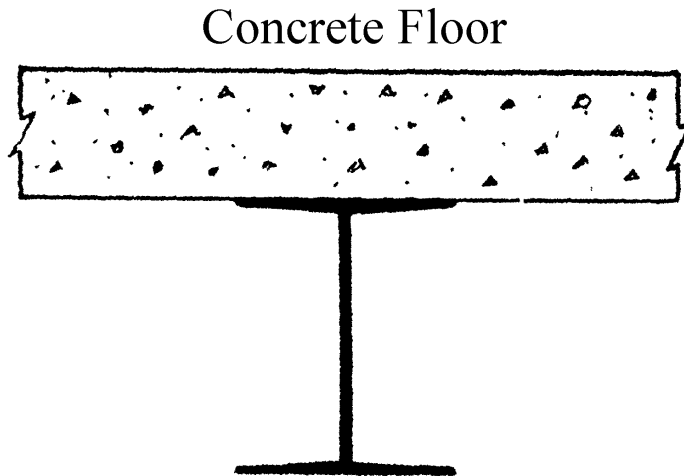

Fig. 1
2. A steel beam is shown in figure 1. Sketch how this could be enclosed using timber framing and plasterboard cladding.